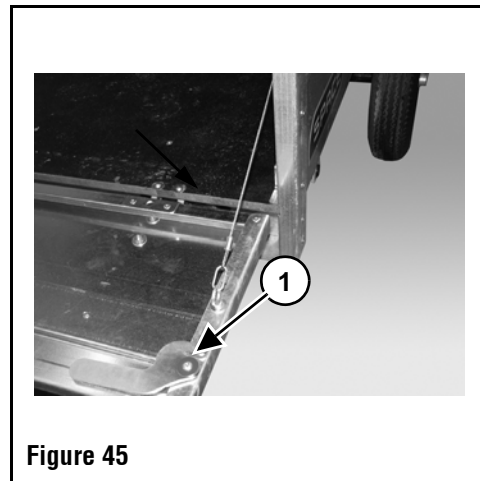

Figure 45
7. Check both tailgate latches (Item 1) for damage and looseness. **(Figure 45)**